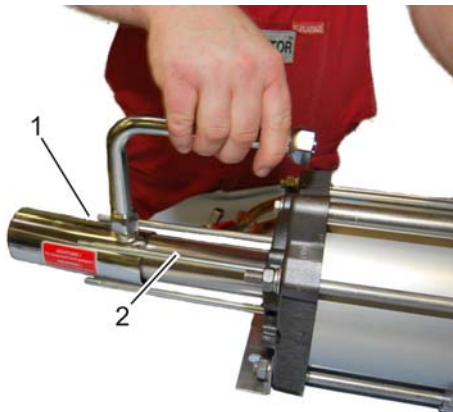

Fig. 60: Removing the cooling pipe
- 11.** Carefully pull off cooling pipe and cooling cylinder (Fig. 60/1) from pressure cylinder (Fig. 60/2).